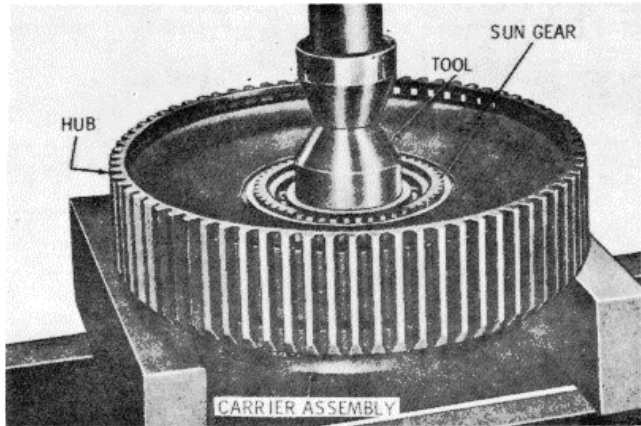

Figure 15-62. Pressing Splitter Carrier Assembly from Splitter Sun Gear Bearings
4. Place the planetary and hub assembly so the hub rests on wood blocks (Figure 15-62). Place the pressing tool against the hub of the carrier assembly. Press the carrier out of the splitter sun gear bearing.